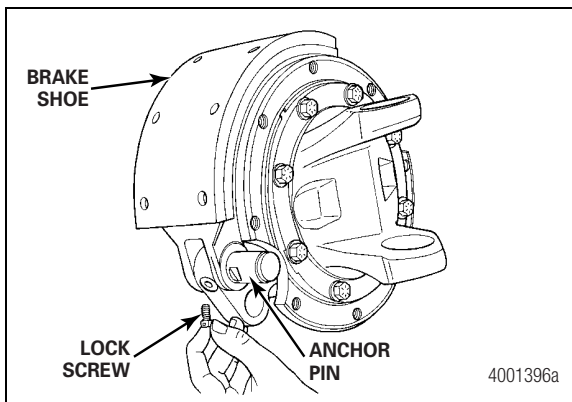

Figure 5.20
4. Install the anchor pins into the brake shoes. Verify that the flat side of the pin is installed toward the lock screw in the shoe. Figure 5.20.
5. Use a hammer and a brass drift to install the anchor pins into the shoes. Figure 5.20.